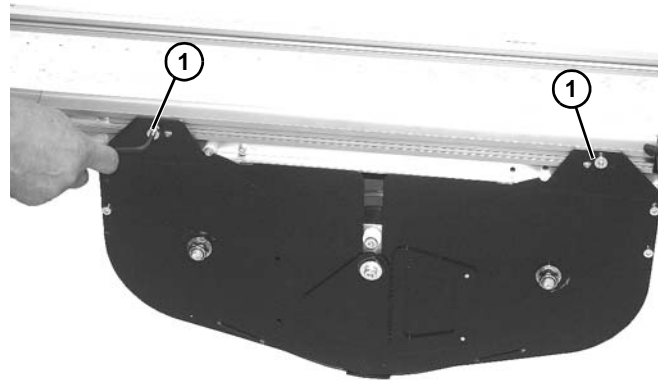

Figure 64
5. Install and tighten two screws (Figure 64, item 1) on each side to secure assembly to frame.